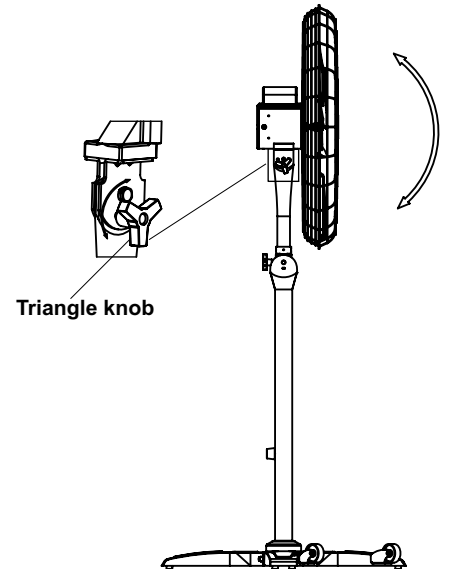

Figure 9
8. Adjust the tilt angle by tightening the triangle knob in the upper pole. (Figure 9)